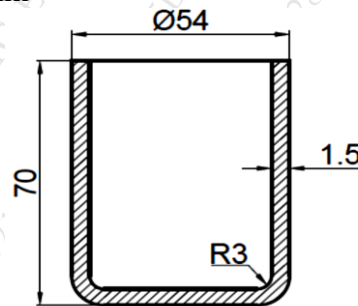

Figure 1
Q. 1. Attempt any **FOUR** questions. (20)
Q. 2. (a) For a drawn cup shown in Figure 1, Calculate the following: - (10)